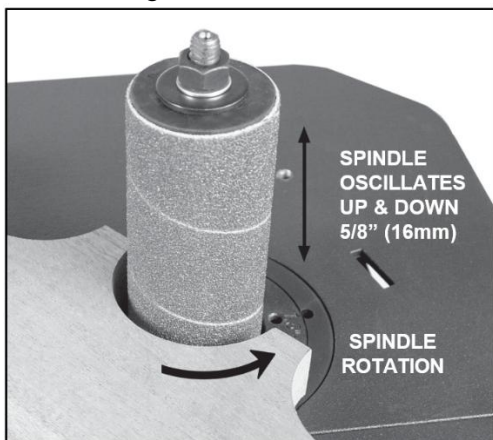

Figure 11 :Drum Oscillation limit.
- 3- Looking from the front of the machine, the motor turns in a counterclockwise direction. Feed the work across and with the direction of the spindle rotation. FIG. 11.